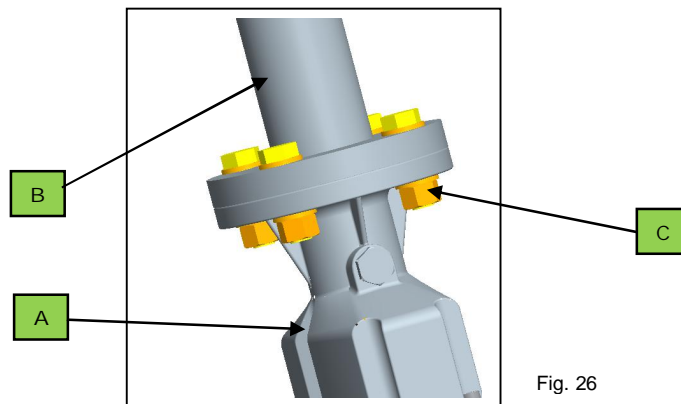

Fig. 26
**First step:** Remove the tape from the entry/exit air zones. Fix the upper flange (Fig.26/A) on the flange of the pipe from the conservator (Fig.26/B) with four M12 screws (Fig.26/C).